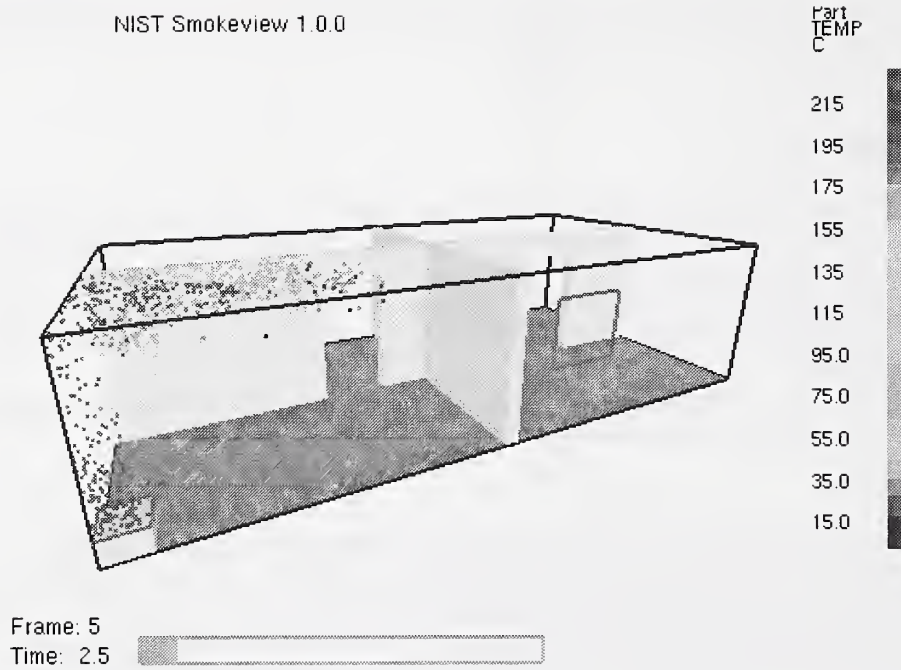

Figure 2: Particle File Example.
**Particle files** Particle files contain the locations of the thermal elements (or particles) used to introduce heat from the fire or to visualize the flow field. Particles are colored using criteria such as: 1) temperature, 2) burning state: burning, burned out, or 3) whether they are water (sprinkler droplets). Temperature colors are selected from a user definable color palette defined with the `COLOR` keyword documented in Appendix D.1. Figure 2 shows a snapshot of particle flow where particles are colored according to their temperature. Default colors for other quantities are yellow for burning, white for non-burning, and blue for water droplets. Particles are stored in files ending with the extension `.part`. Particle files are displayed by selecting the desired particle file from the `Load/Unload` menu.